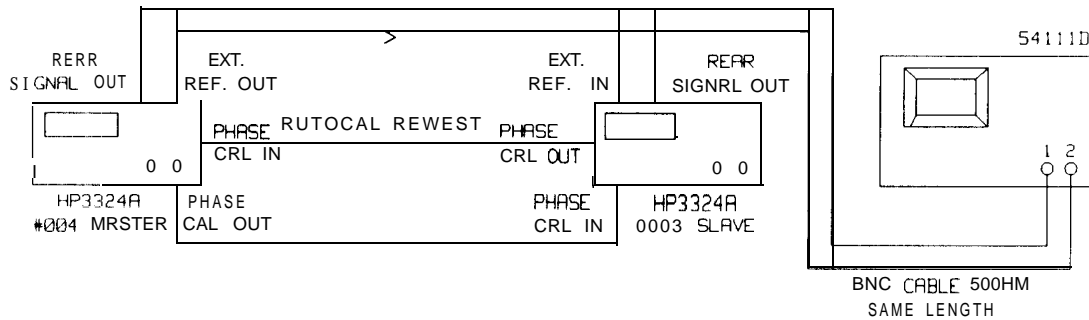

Figure 12-10. Phase Calibration Test Set-Up
1. Connect the equipment as shown in Figure 12-10.